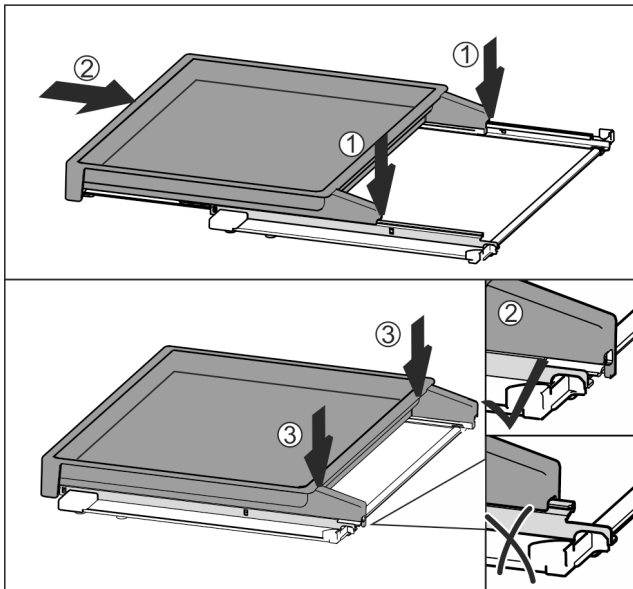

Fig. 41
- ▶ Place centrally on the rails Fig. 41 (1).
- ▶ Slide the pull-out board all the way in Fig. 41 (2).
- ▶ Press down at the back until it clicks into place Fig. 41 (3).